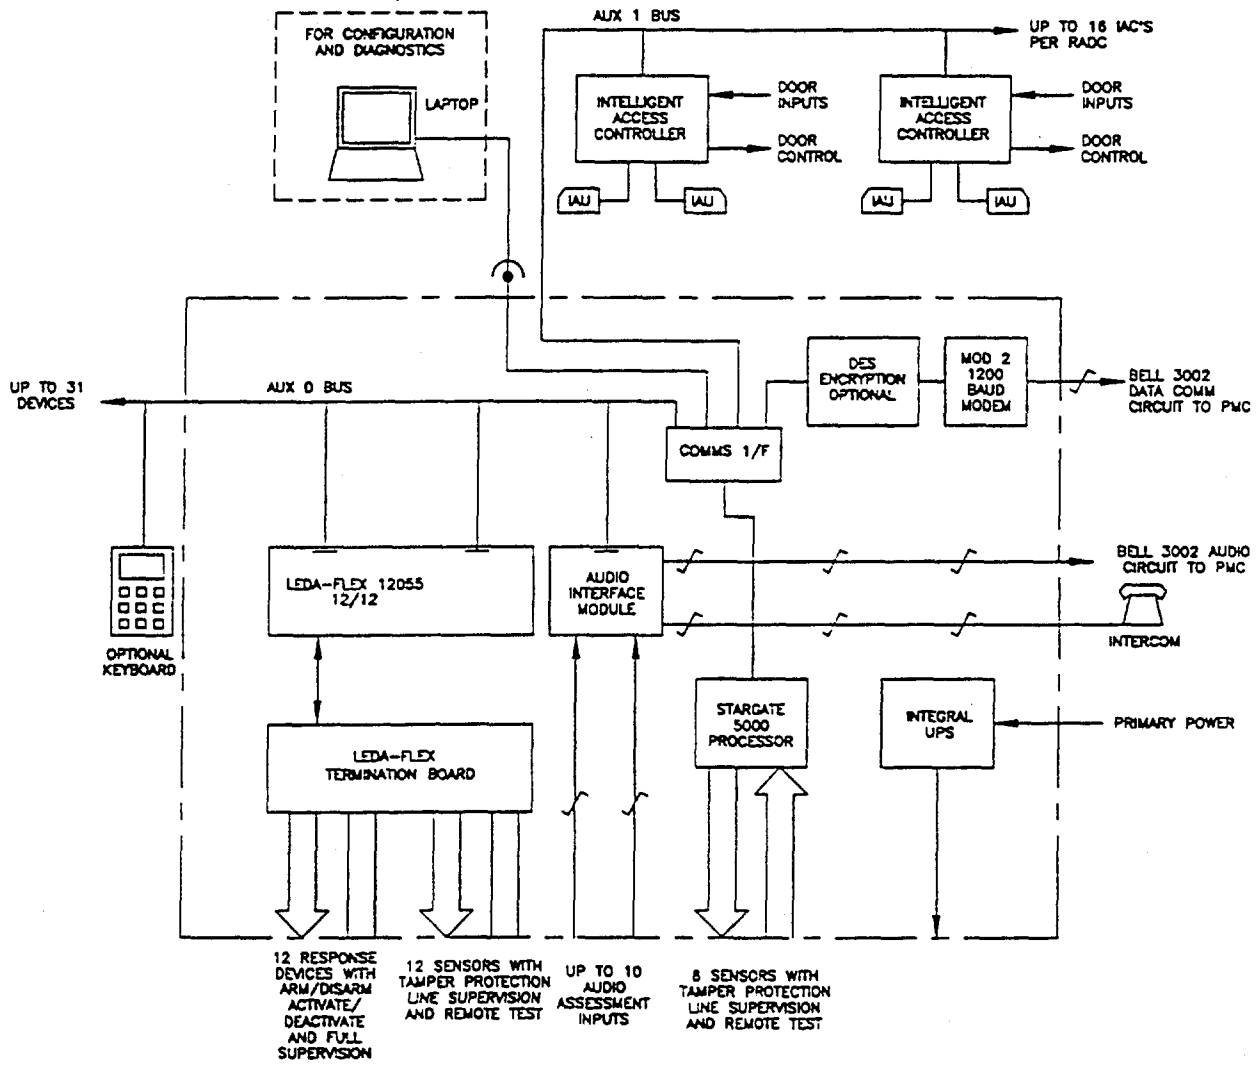

Figure 1-26. ICIDS Interior RADC-General Block Diagram
e. Remote Area Data Collectors (RADCs). (See Figures 1-26 and 1-27.) The RADC provides for local alarm inputs and outputs and also provides extensive sub-unit capabilities. Up to 16 Intelligent Access Controllers (31 doors) can be multiplexed on an RS-485 line. These lines can extend out from the RADC location some 4000 feet. The CPU and memory capability handles the global capacity that is provided by this distribution of inputs and outputs. An optional keypad provides an interface to personnel so examination of the status can be made. A port is also provided to connect a lap top computer for unit configuration and diagnostics. The audio interface provides the capability for the audio assessment Input devices and the intercom. The encryption device, when required, will be installed in the RADC enclosure. Data communications to the PMC is provided via the Mod 2 modem. A built-in UPS is also provided as part of the RADC.